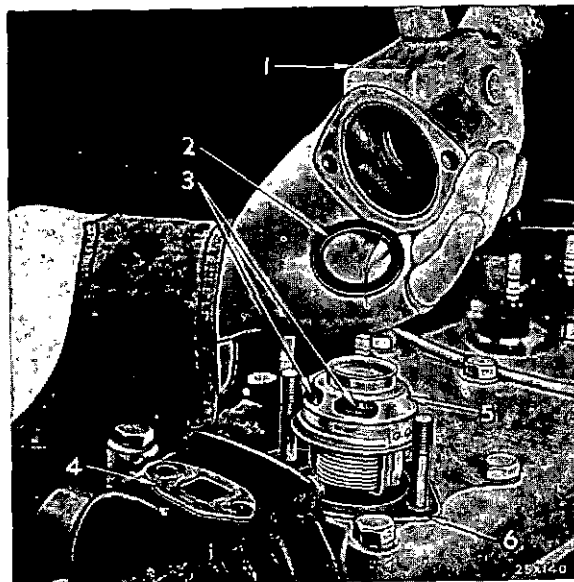

Figure 32 — Installing Thermostat (Typical)
**WATER TEMPERATURE.** A thermostat in the cylinder block retards the circulation of liquid in the cooling system until the liquid has reached a predetermined temperature, thereby permitting faster warm-up of the engine. Do not operate the engine with the thermostat removed, as this unit is essential to proper circulation and efficient engine performance. Without the thermostat, sludge will form in the crankcase because the low temperature of the engine permits condensation of fumes in the crankcase. The thermostat cannot be repaired; if it fails to operate properly, replace the unit. When installing a thermostat, position it so that the thin bridges which divide the openings, face to the front and rear of engine (Figure 32). When operating in hot climates, the maximum reading of the temperature gauge should not exceed 100° F. above the prevailing atmospheric temperature or not to exceed 210° F.